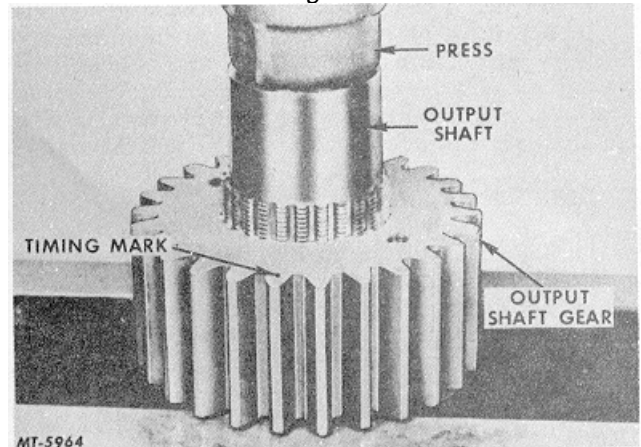

Fig. 11
8. If repairs are necessary, press output shaft (pinion) gear from shaft, Fig. 11.